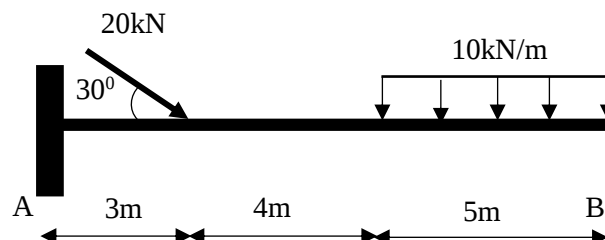

Figure A1(b) / Rajah A1(b)
- CLO1 (b) Based on the loaded cantilever beam as shown in Figure A1(b). Calculate all the reaction forces at support A.